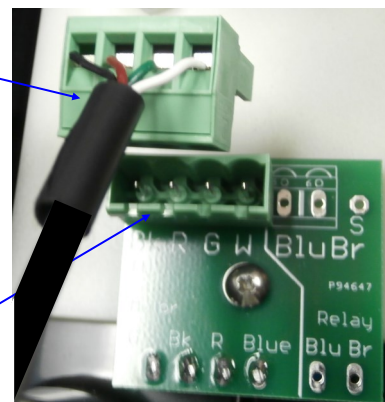

FIG. 3.14
- Insert the wires into the appropriate terminal following the wiring sequence shown in figure 3.14. Be careful to ensure that there are no bare wires protruding out from the terminal clamps. **Also be sure that when you tighten the terminals you are clamping on the bare wire and not the insulation! This can happen if you don't strip enough insulation off the wires or if you insert them too far into the terminal.**